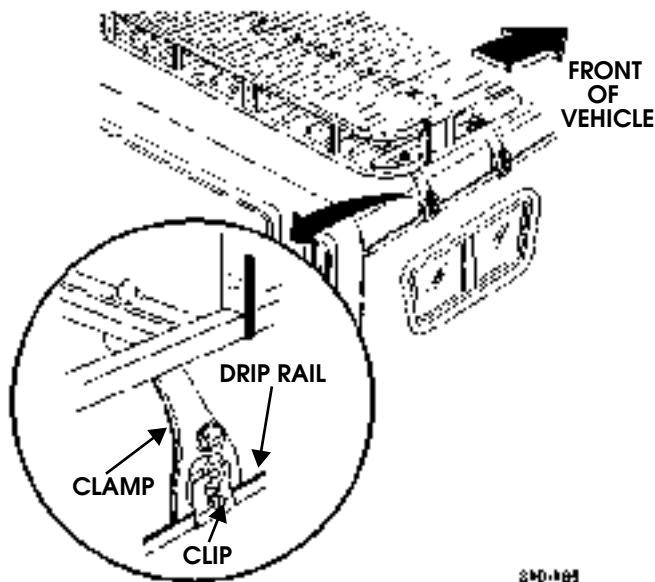

Figure 13-54: Roof Rack Clamp
1. Loosen eight support screws on clamps (Figure 13-54).
1. Position roof rack on top of vehicle with rack ends toward front and rear of vehicle (Figure 13-54).